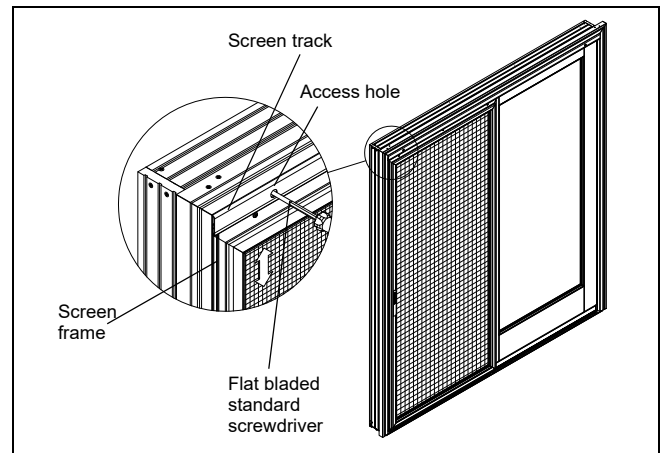

Figure 3
1. Close the screen panel within 1/4"(6) of the jamb. Adjust the screen up or down so that an even reveal is attained along the entire height of the screen panel. Adjustment is possible by loosening or tightening the adjustment screw found in the roller bar assembly. Remove plugs from the screen track to reveal access hole. Slide screen panel so that adjustment screw lines up with access hole and adjust as necessary. See figure 3.